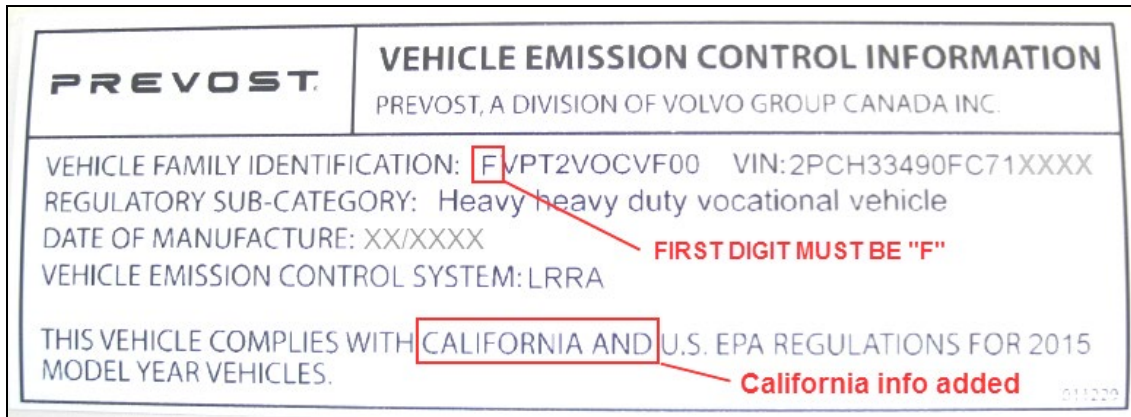

FIG.1 CORRECT INFORMATION ON NEW EPA DECAL – CANADIAN BUILT VEHICLE SHOWN
- Vehicle family Identification number first digit must be "F" (see Fig.1).
- Regulation compliance must include California (see Fig.1).